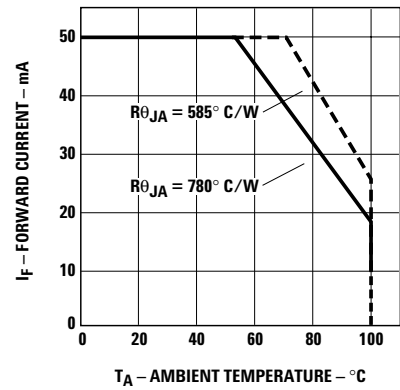

Figure 4. Maximum forward current vs. ambient temperature. Derating based on $T_{JMAX} = 130^{\circ}\text{C}$.
- Derate linearly as shown in Figure 4.